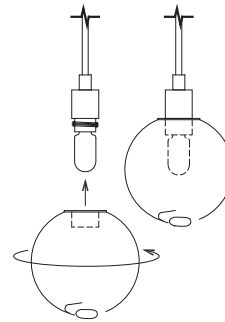

Figure 3. Install glass spheres by threading onto brass sockets
- 8 Carefully thread a piece of glass onto each socket (Figure 3). Do not overtighten.